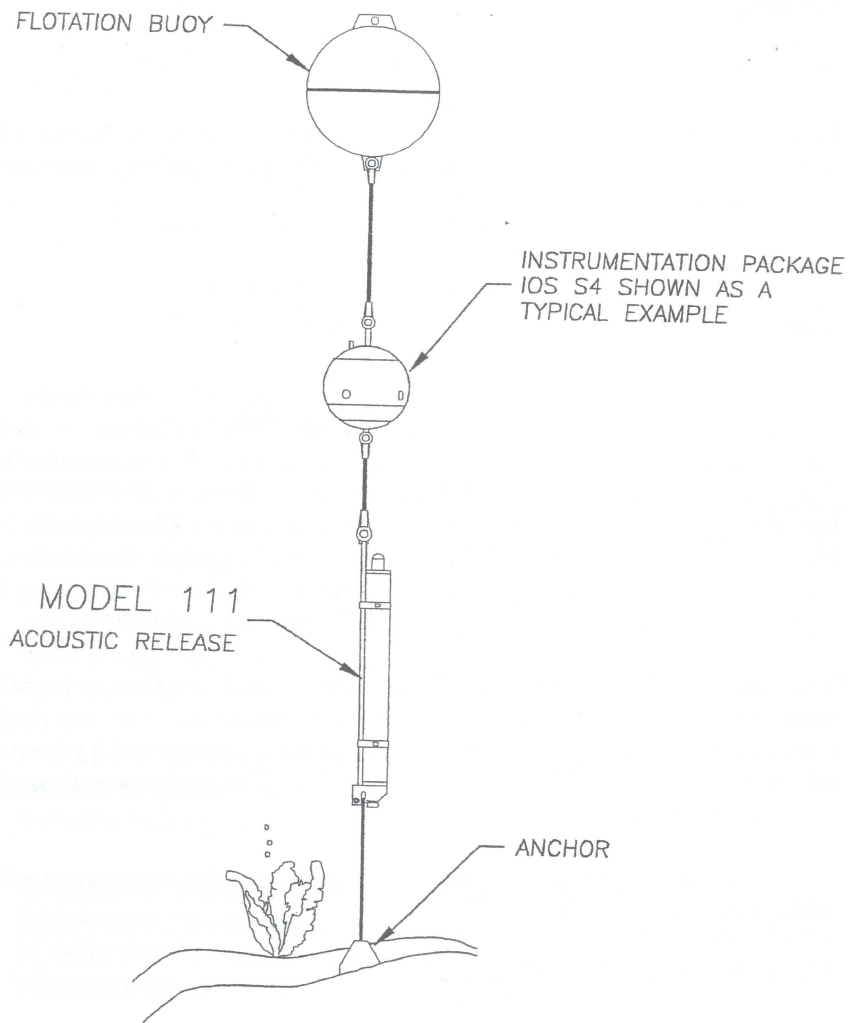
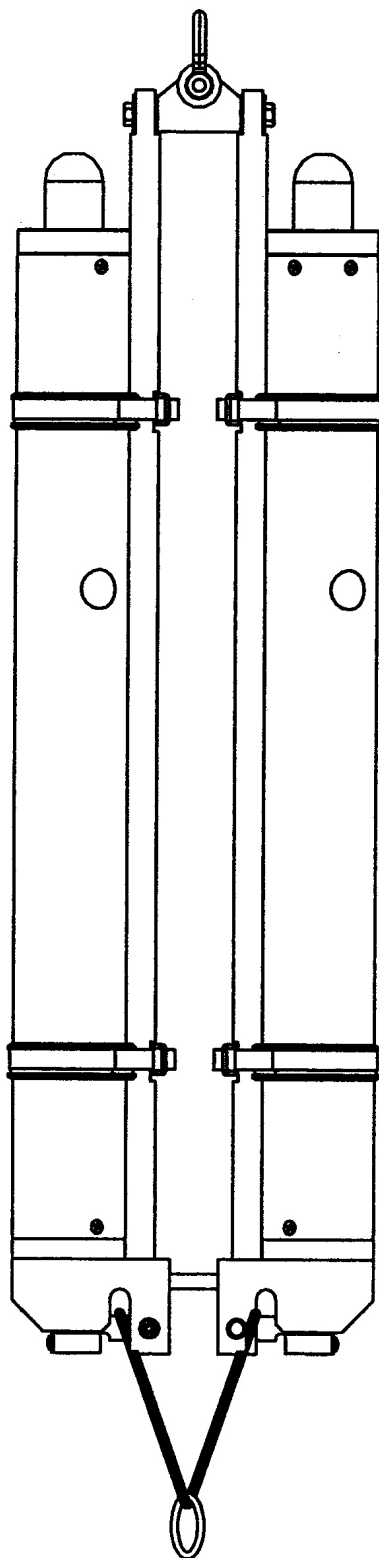

Figure 3.3: Generic setup for deployment
Figure 3.5: Two releasers in parallel
The deployment of the whole equipment must follow a generic setup, like the one shown in figure 3.3.
4. If you are using two releasers in parallel use the setup shown in figure 3.5 instead of the one shown in Figure 3.3. This setup requires that the rope is tied to the release pivots of both releasers, having a metal ring in the middle to attach the equipment to the anchor. Figure 3.6 shows the setup in a real image.